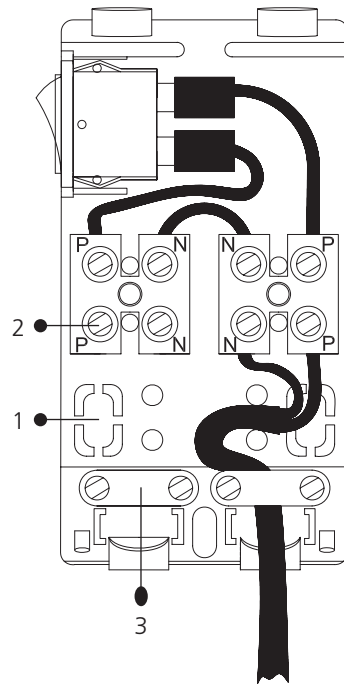

Fig. 4
2. Electrical connection with mains: fix the mains in clamp (2) and clamp the mains with the cable clamp (3) (see fig. 4).
3. Electrical connection with flush connection: open the basis at the defined place (1) and connect the connection wires (230/240 V) to the clamp (2) (see fig. 4).